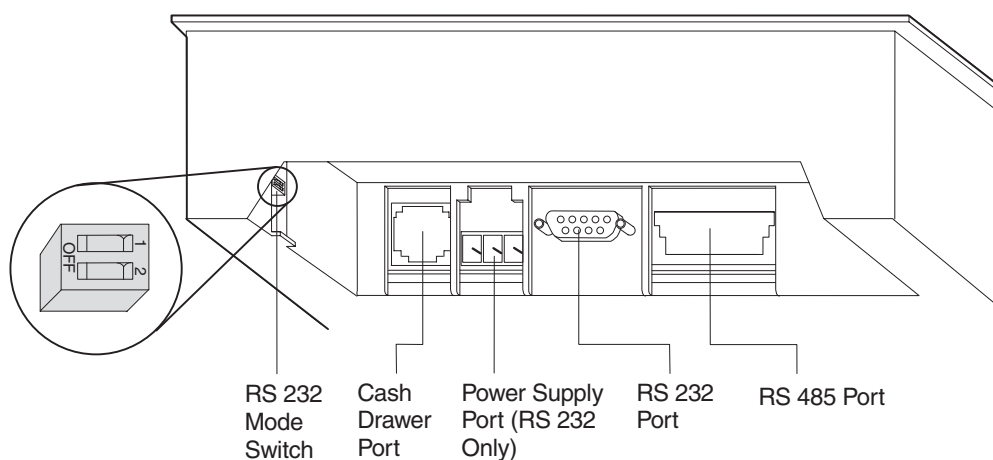
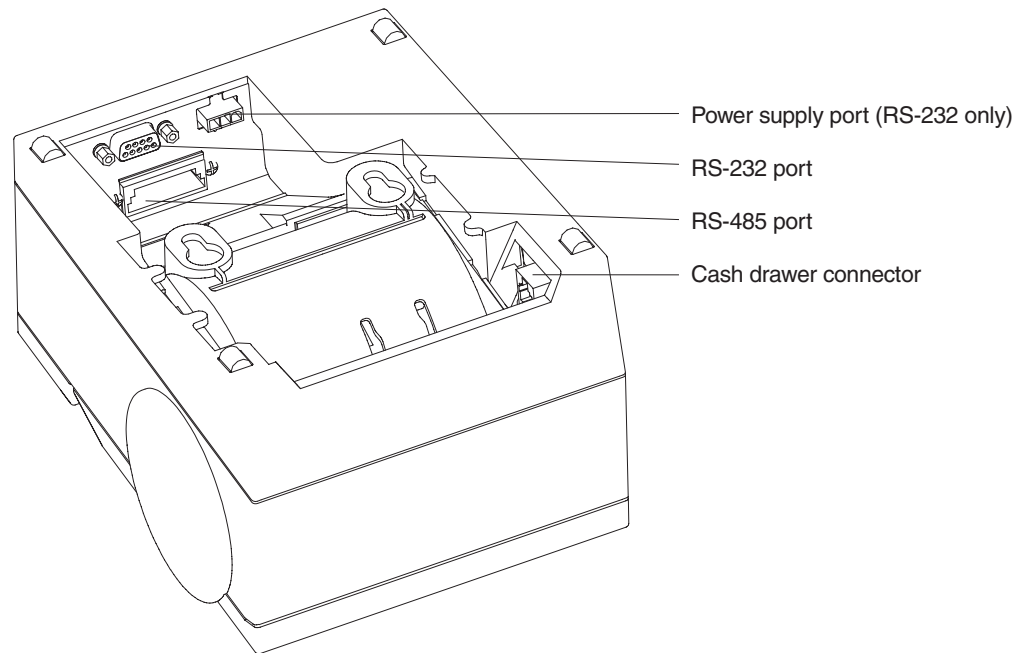
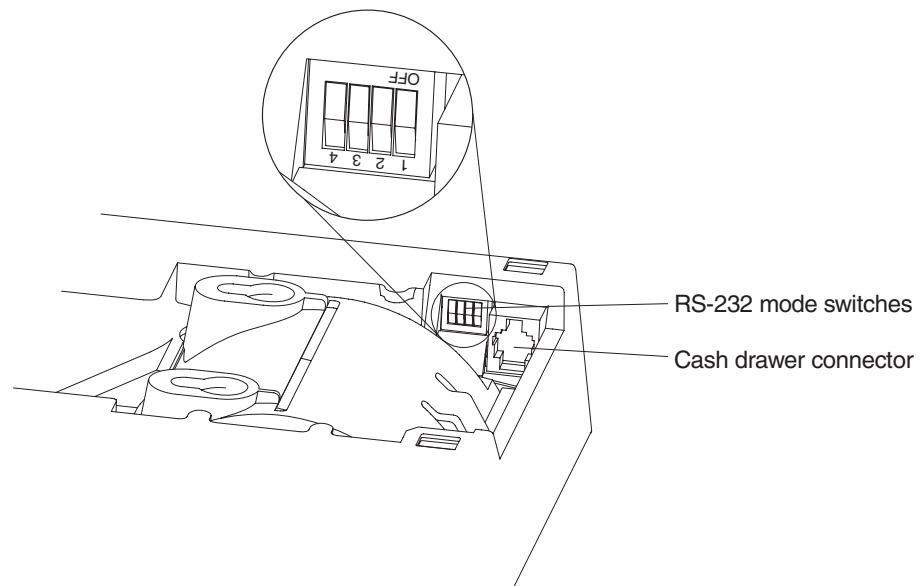

Figure 5. Cable Connectors and RS-232 Settings Switch for Thermal/Impact SureMark Printers. (View is from the bottom rear of the printer)
Figure 6. Cable Connectors for Single-Station SureMark Printers. (View is from the bottom rear of the printer)
Figure 7. RS-232 Mode Switches for Single-Station SureMark Printers. (View is from the bottom rear of the printer)
- a. For all models except TI8, check the settings on the RS-232 mode switch, which is near the rear cable connections. (See Figure 5 for thermal/impact printers. See Figure 6 on page 19 and Figure 7 on page 19 for single-station printers.) See "RS-232 communication mode selections — all models except TI8" on page 29 for information on switch settings. For Model TI8, see "RS-232 communication mode selections — Model TI8" on page 32.
1. Power the system off and disconnect the RS-232 power supply (if connected). See Figure 5 on page 18.
Switch settings described in this section apply only when the printer is connected to the system with the RS-232 cable. The switch is accessible without removing the printer covers. (See Figure 5 on page 18 to see how to access the switch.)